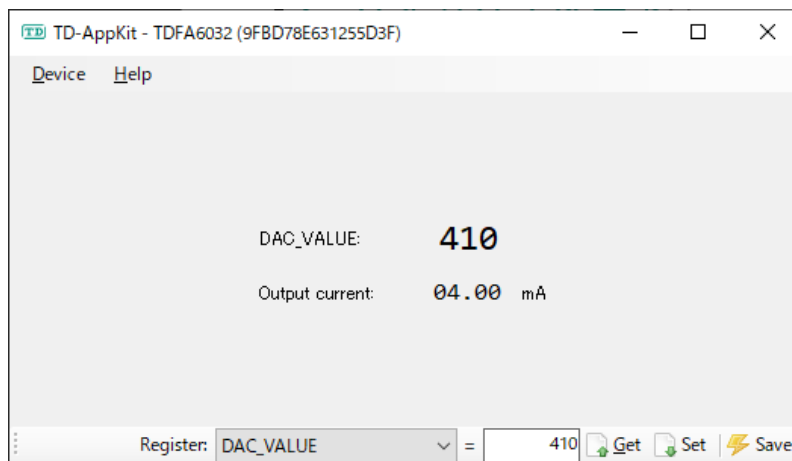

Figure 3 Main window
- In the main window (Figure 3), select **DAC_VALUE** from the “Register” box at the bottom, enter **410** in the box on the right, and then click the “Set” button.